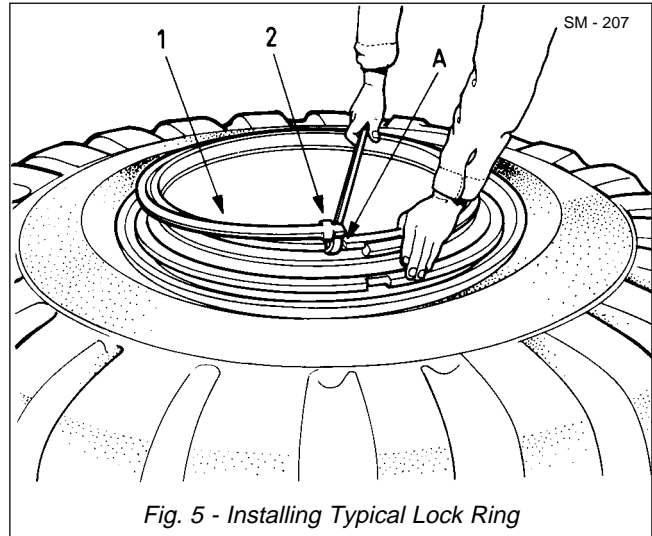

Fig. 5 - Installing Typical Lock Ring
5. Install outer flange (1) on rim (4).
6. Install bead seat band (2) on rim (4).
7. Install lock ring (3) in groove of rim (4). Use pry bar for this operation, as illustrated in Fig. 5.
8. Force bead seat band (2) past 'O' ring groove in rim (4) by prying, or with lift truck forks. Use blocking between the forks and tyre to prevent tyre damage. Lubricate area of rim adjacent to 'O' ring groove with a